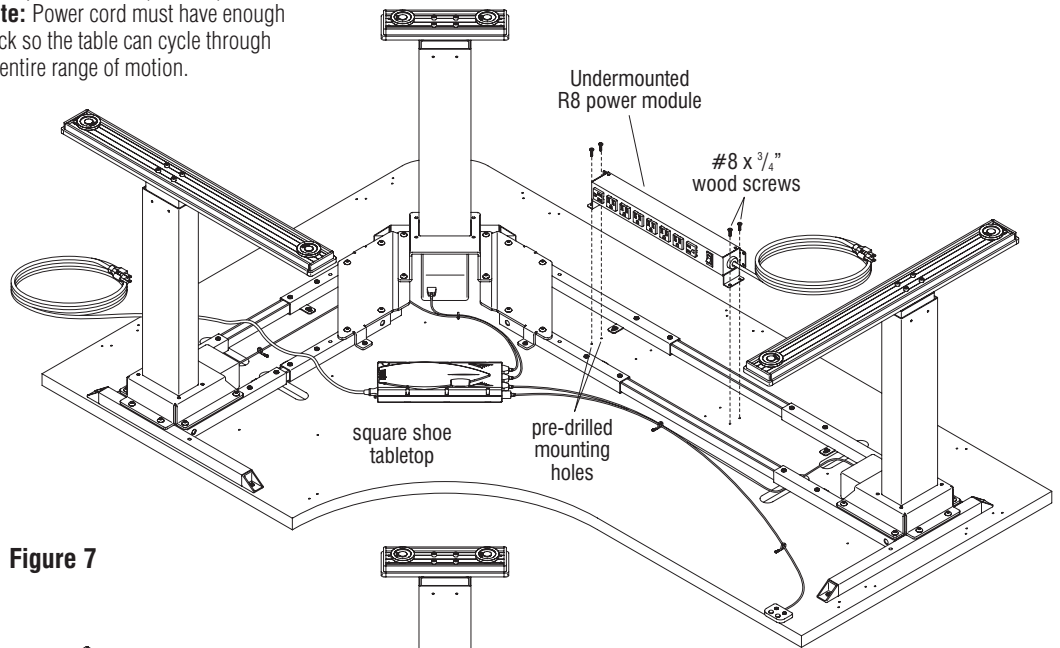

Figure 7
1. Position the Undermounted R8 power module to the underside of the worksurface at the desired pre-drilled mounting location. Assure that the power cord can be routed easily to a power source (Figure 7).
2. Align the pre-drilled mounting holes of the R8 power module with the drilled mounting holes underneath the tabletop. Secure the R8 power module to the worksurface using four #8 x 3/4" wood screws. Take care to not over tighten (Figure 7).